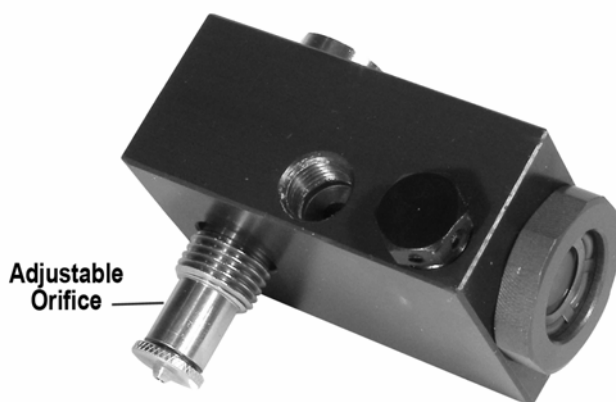

Figure 2 – Adjustable Orifice
8. Ensure that the adjustable orifice is fully raised up so that the actuator arm is not bent when inserted into the body. See **Figure 2**.